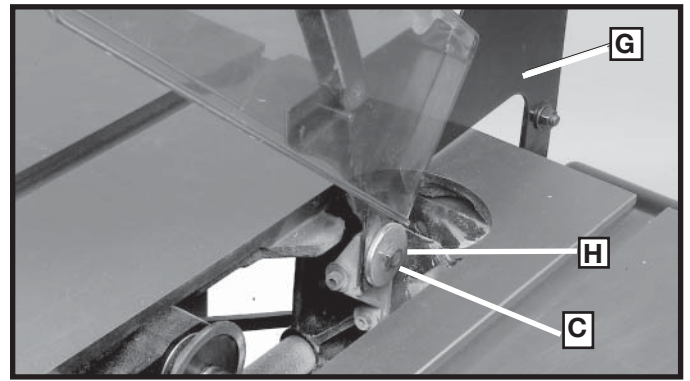

Fig. 47
7. Assemble the blade guard and splitter assembly (G) Fig. 47, between the large washer (C) and the splitter bracket and tighten screw (H) with wrench supplied. Slide splitter as far down as it will go.